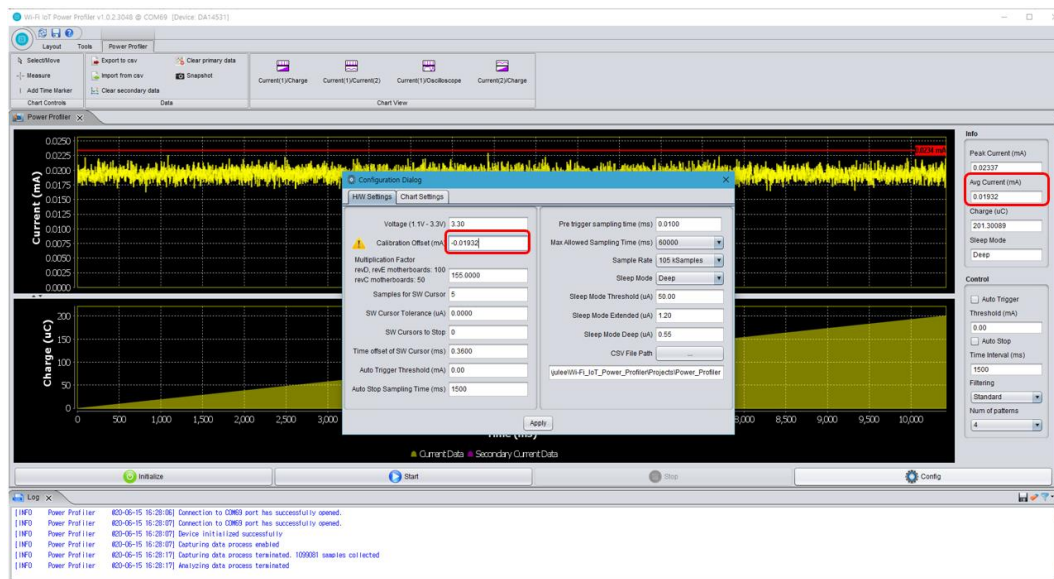

Figure 62. Setting calibration offset
3. Run a free running capture for a few seconds and note down the number in the **Avg Current (mA)** field as shown in Figure 62. Note that the last digits of the number keep changing slowly due to temperature drift. It is important to do the calibration steps periodically.
4. Finally, put this average value with a negative sign in the **Calibration Offset (mA)** field. CTRL-C and CTRL-V are also workable as shown in Figure 62.